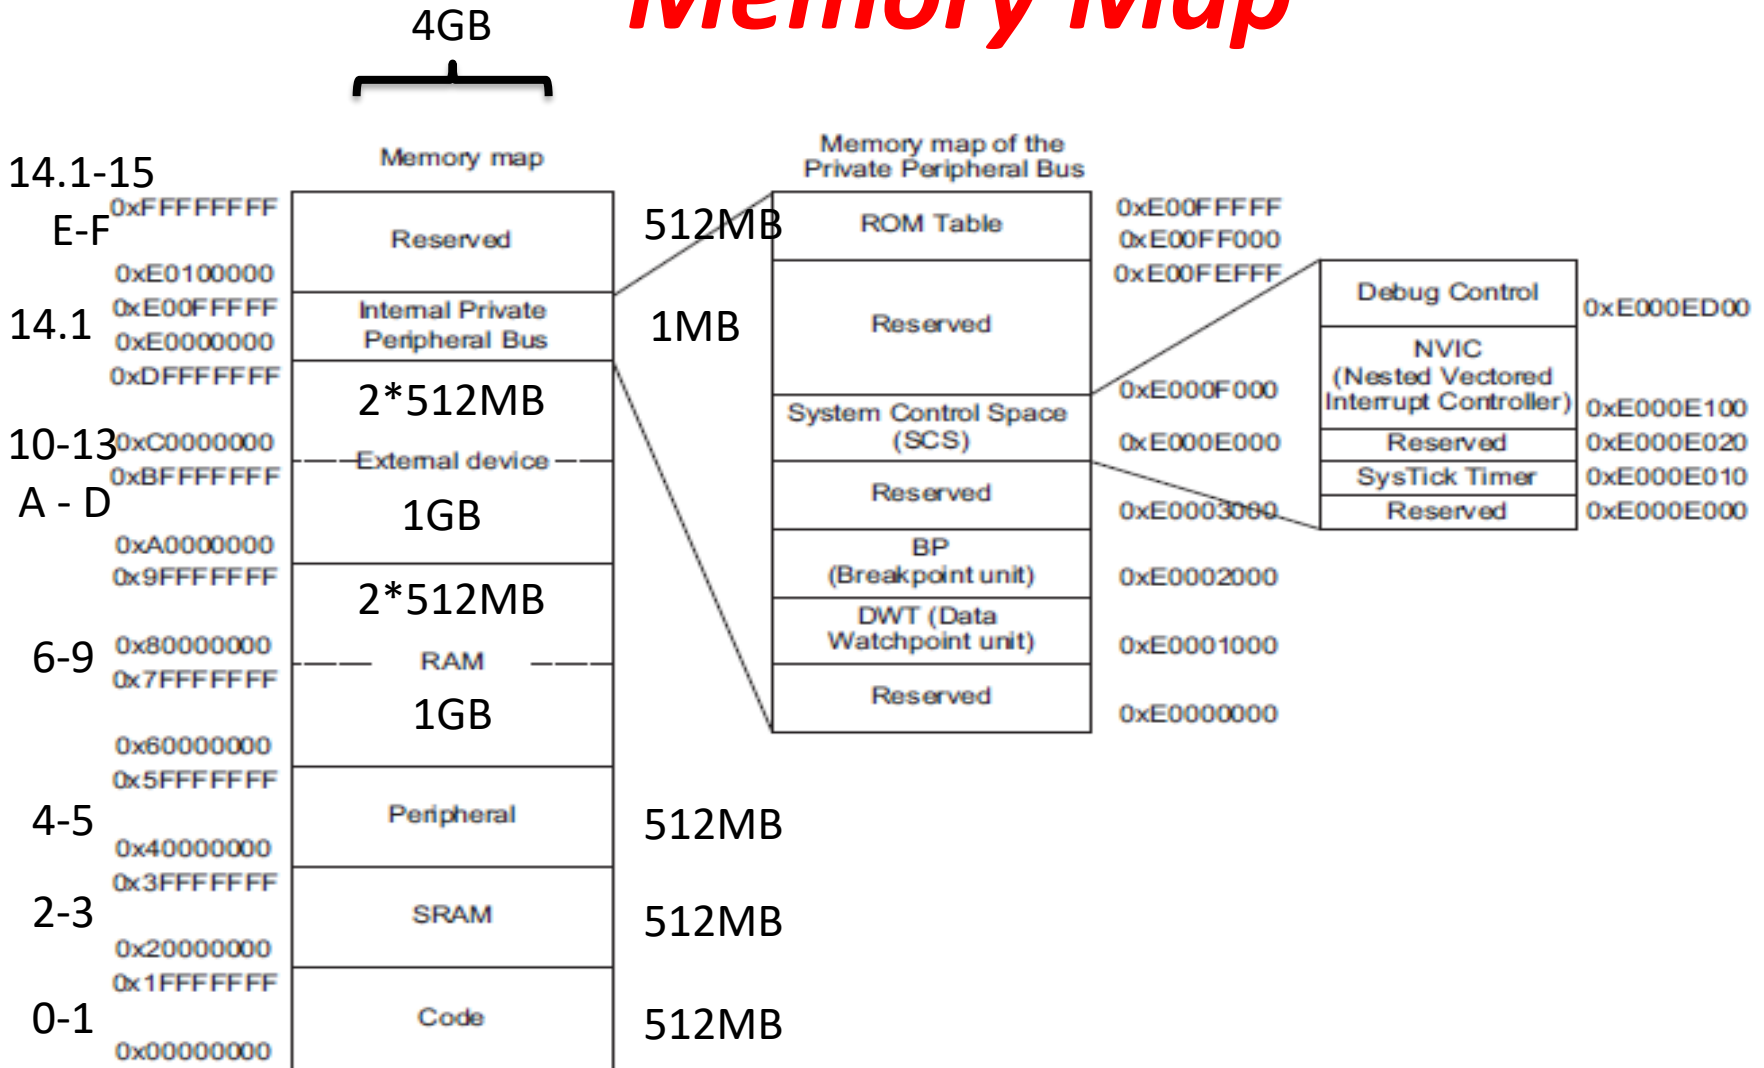

Figure 7.2:
- The 4GB memory space of the Cortex-M0 processor is architecturally divided into a number of regions (Figure 7.2). Each region has its recommended usage, and the memory access behavior could depend on which memory region you are accessing to.